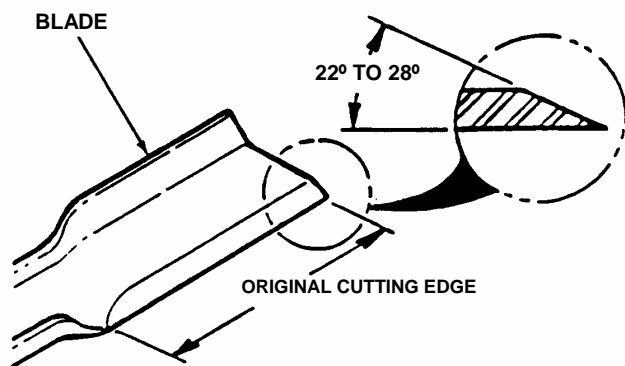

FIGURE 5.6
3. If blade is in good condition, sharpen at 22 to 28 degrees. DO NOT sharpen beyond original cutting edge. See Figure 5.6.